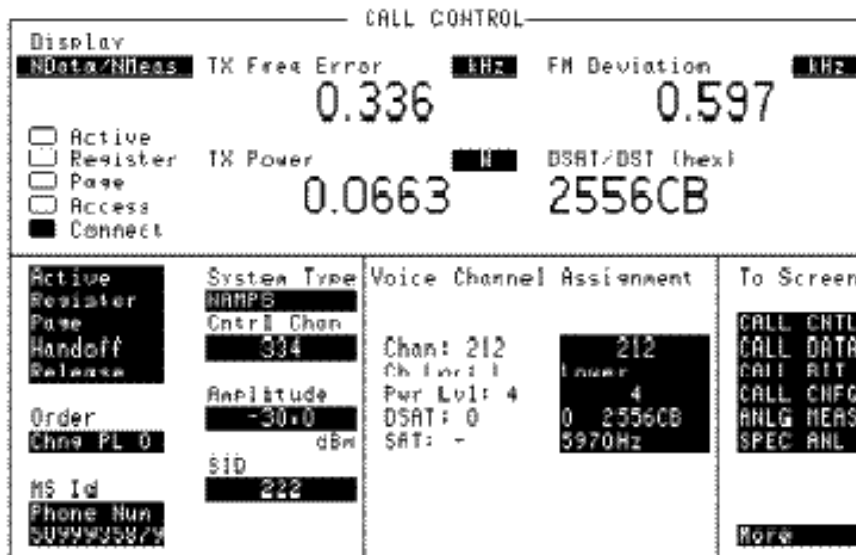

Figure 31 CALL CONTROL Screen with NMeas Selected
- For system type NAMPS the following parameters are measured when the Test Set is in the connect state. See Figure 31 .